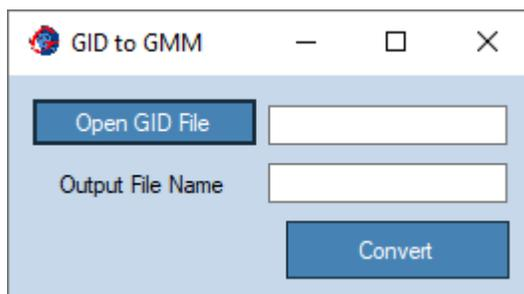

Figure 18: GID® to *Geo Meshing v3.2* dialog windows.
- **GID® to GM:** Opens a dialog window (shown in Figure 18) for converting GID® meshes files (\*.msh) to *Geo Meshing v3.2* files (\*.gmm). This program only works with 2D meshes exported from GID®. More information can be obtained at [www.gidhome.com/](http://www.gidhome.com/).